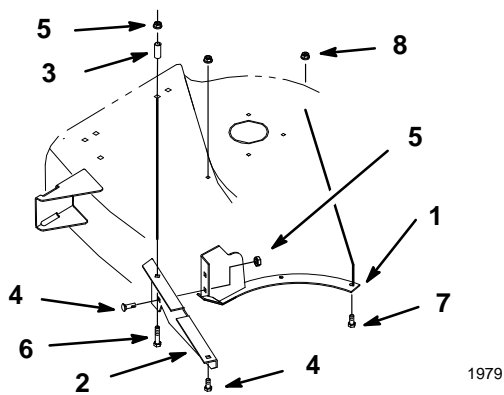

**Figure 33**
1. Remove the grass baffle inside front lip of mower (Fig. 33).